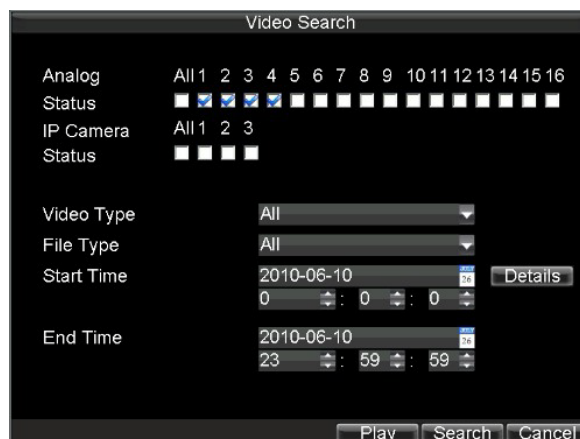

Figure 1. Video Search Menu
1. Enter the Video Search menu (shown in Figure 1) by clicking Menu > Video Search.